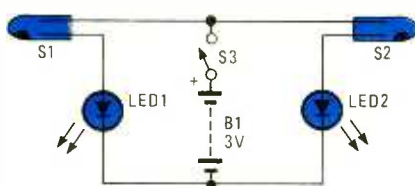

Fig. 1. The electronic level consists of nothing more than a toggle switch, two mercury switches, a pair of LED's, and a 3-volt power source.
**Electronic Level.** Here's the first Helps & Hints of the month. Check out Fig. 1. Mount the two mercury switches on an absolutely flat board, along with the